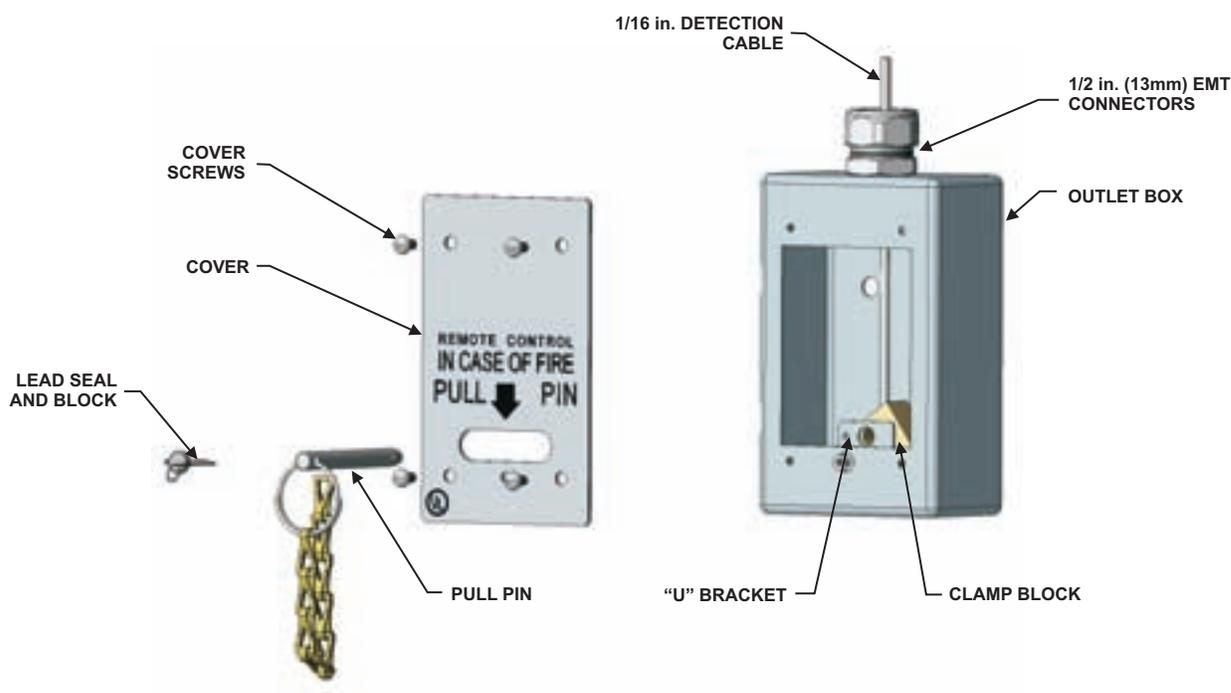

Figure 4-64. End-of-Line Remote Manual Control, P/N 9197463
5. Before replacing the cover plate, a lead seal and wire (or equivalent) must be fastened through the ring of the pull pin and through the front hole of the "U" bracket (Figure 4-64).
3. Run the cable down through the vertical conduit to an end-of-line Surface Mounted Manual Control Box. Insert cable through conduit connector on one side of the roll pin (Figure 4-64).
**Note:** A 3-Way Pulley (P/N 9197602) CANNOT be used to operate dual gas valves. Only one (1) 3-Way Pulley can be used in a given detection system and must be counted as two (2) Corner Pulleys.